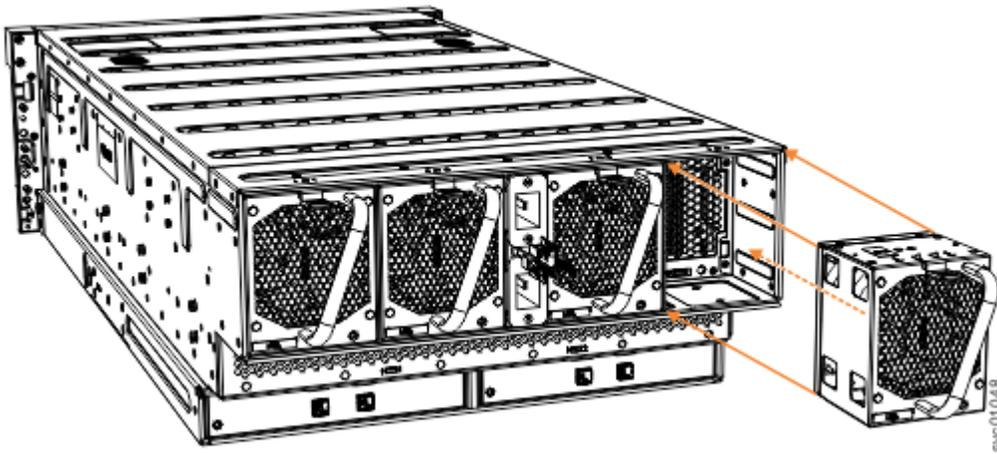

Figure 102. Replace fan module
2. Carefully insert the fan module into the chassis until it clicks in place, as shown in Figure 102 on page 91.